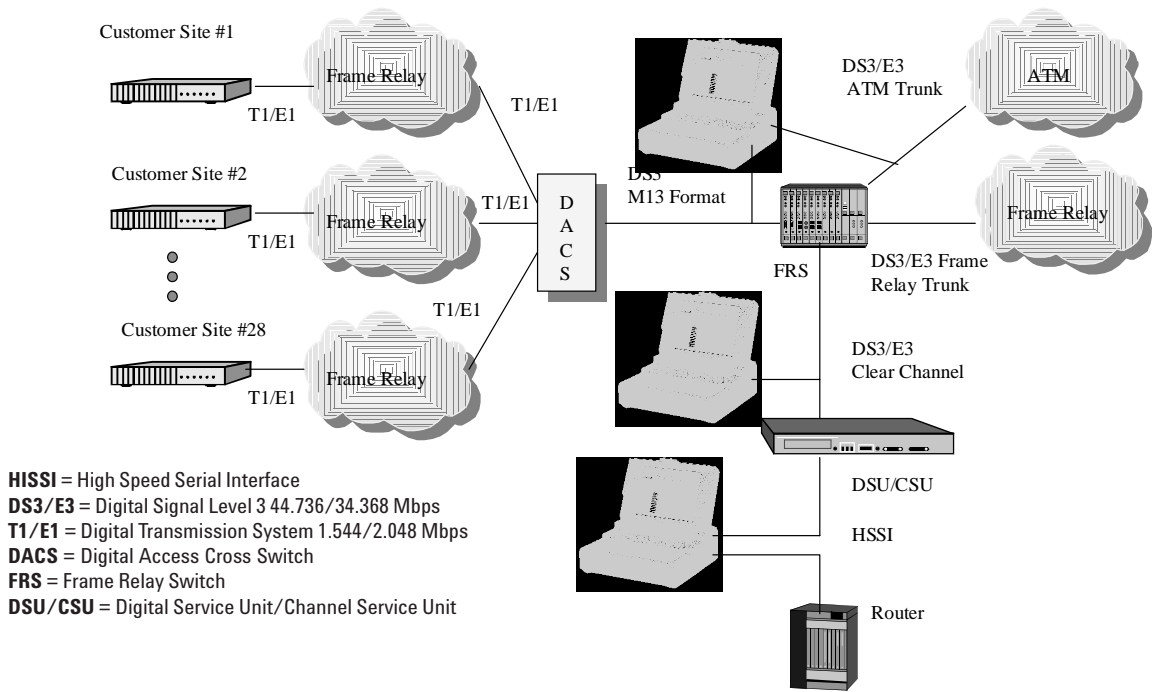

Figure 3.
Several connection types are commonly encountered in frame relay access circuits. In Europe and other countries conforming to CEPT- E1 primary rate recommendations, frame relay is commonly delivered to the subscriber through a channel service unit (CSU), which terminates the circuit from the central office (CO) and conditions the signals. Access by the user may be through CEPT-E1 directly, or through V-series connections such as V.35 or V.11, particularly if an intermediary data service unit (DSU) that converts the primary rate signals is used. In North America and Japan, frame relay is often delivered over T1 to a combination DSU/CSU, and user access is through V.35. Network backbones, trunks that interconnect ATM and frame relay networks, and connections between high performance enterprise LANs and frame relay switches often rely on higher speed DS3 and HSSI interfaces. Figure 3 shows one example of a frame relay topology.